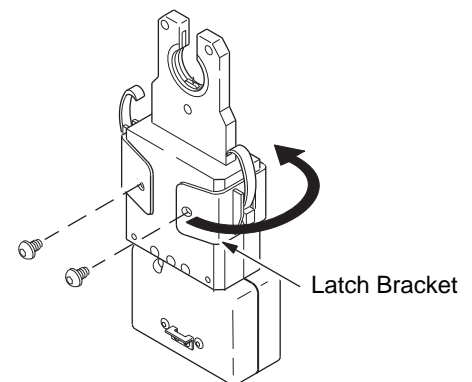
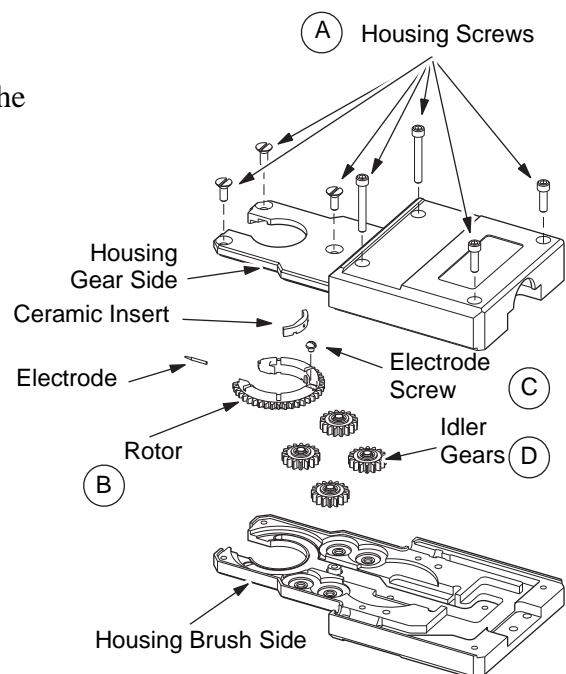

Figure 32 Removing Series 8 Micro Weld Head Latch Bracket
Figure 33 Removing Series 8 Micro Weld Head Components for Cleaning
To disassemble the Series 8 micro weld head for cleaning, use the following instructions. See Figure 32 and Figure 33 for part references.
1. Remove the two screws that secure the latch bracket and remove the bracket from the weld head. See Figure 32.
3. Remove the seven screws from the weld head housing. See Figure 33(A).
5. Remove the rotor by lifting it clear of the brush side housing. See Figure 33(B).
6. Loosen the electrode clamping screw, then remove the electrode and ceramic insert. See Figure 33(C).
9. Remove and inspect the four idler gears for damage. Replace if necessary. See Figure 33(D).